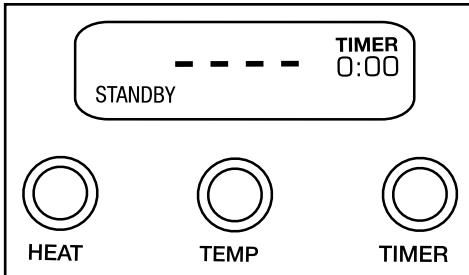

Figure 1
- 120 volt units are supplied with a molded 3-prong grounding-type plug and should be used in combination with a properly connected grounding-type outlet, as shown in Figure 1.
**NOTE:** The Induction Range requires induction-ready cookware. If the pan is not induction ready, it will not register on the induction range. The LCD display will show “-----” and “STANDBY” will flash (as seen in figure 1) when attempting to select a heat mode without an induction-ready pan on the glass cooking surface. The unit will automatically shut off after 60 seconds of not having an induction-ready pot/pan.